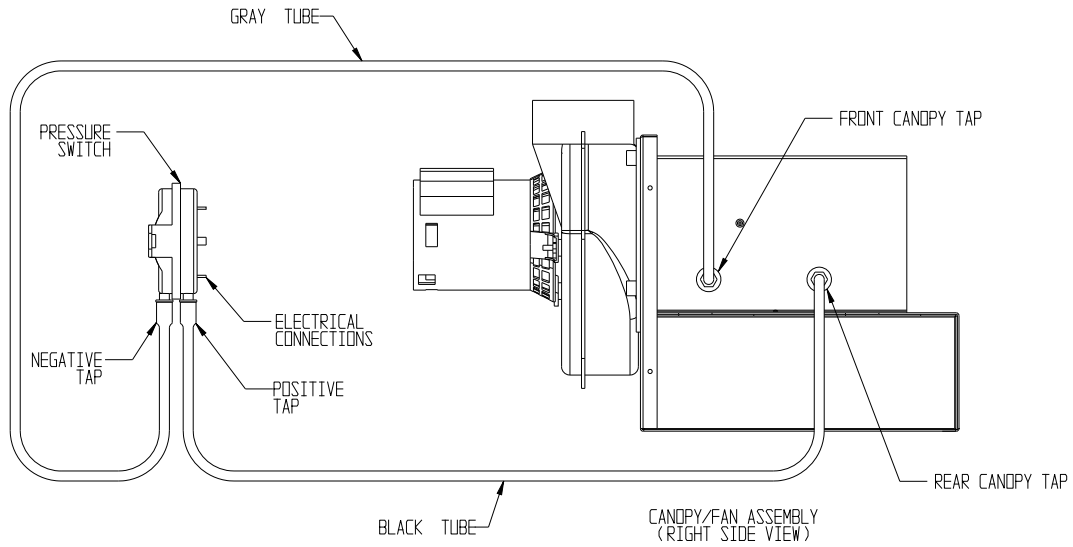

Figure 12.3a: Pressure Switch Connections
1. Pressure Switch – This boiler is equipped with a differential pressure switch which makes when there is adequate flue gas flow through the boiler. This switch measures the pressure drop across an orifice plate inside the flue collector; the higher the flue gas flow through this plate, the higher the pressure drop. The N.O. contacts on the pressure switch make, allowing the boiler to fire, when the pressure drop across the flue collector orifice plate switch exceeds the “make setting” shown in Table 12.1. Once the switch is made, the boiler will fire as long as the pressure at the switch is above the “break setting” shown in Table 12.2. The pressure at both pressure switch tappings is actually below atmospheric (“negative”) with the pressure at the front flue collector tap being the more negative of the two pressures. Figure 12.3a shows the pressure switch connections.